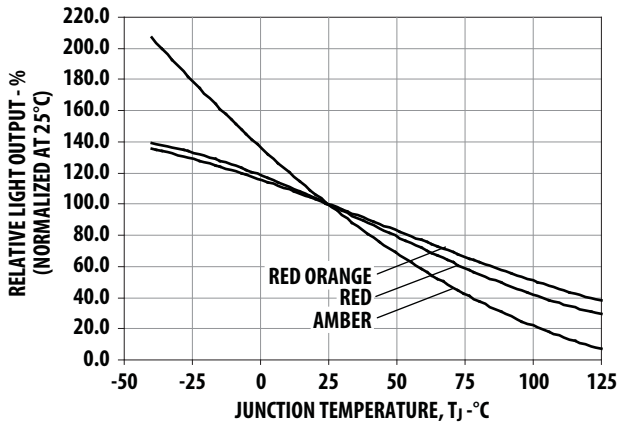
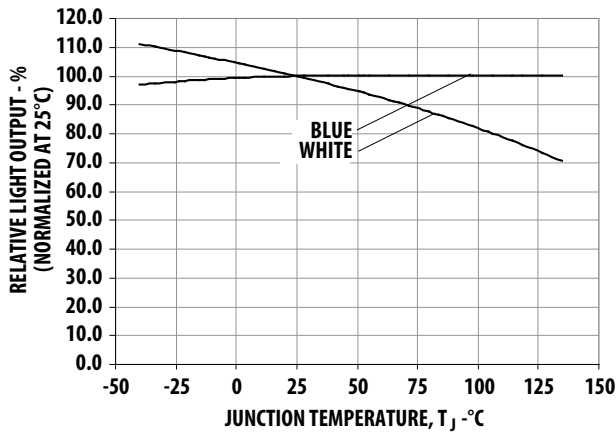

Figure 8. Relative Light Output vs. Junction Temperature.
Figure 20. Relative Light Output vs. Junction Temperature.
1. Derate linearly based on Figure. 8 for AllInGaP and Figure. 20 for InGaN.